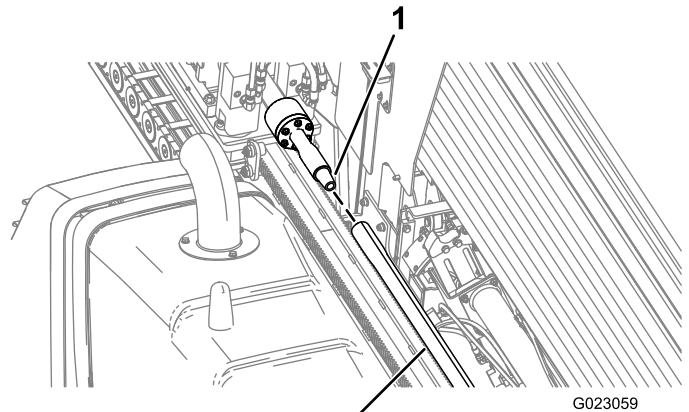

Figure 87
6. Rotate the drill spindle clockwise and move the carriage slowly forward to insert the spindle into the female end of the pipe (Figure 87).
9. Rotate the drill spindle clockwise and move the carriage slowly forward to insert the spindle into the female end of the pipe (Figure 87).